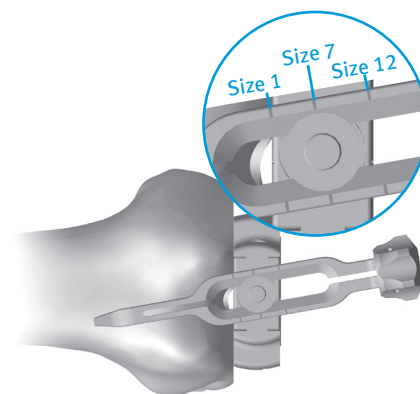
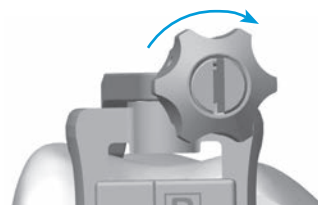

Fig. 39a
Fig. 39b
- Slightly extend the knee and retract soft tissues to expose the anterior femoral cortex. Clear any soft tissue from the anterior cortex. Ensure that the leg is in less than 90° of flexion (70°-80°). This will decrease the tension of the patellar tendon to facilitate placement of the sizing boom. The sizing boom telescopes proximally/distally to facilitate optimal placement along the anterior cortex. The engraved lines along the top of the boom approximate the anterior flange lengths of the size 1, 7, and 12 femoral components (Fig. 39a). Once the sizing boom is appropriately positioned, it should be locked in place by tightening the knob at the end of the boom clockwise (Fig. 39b).